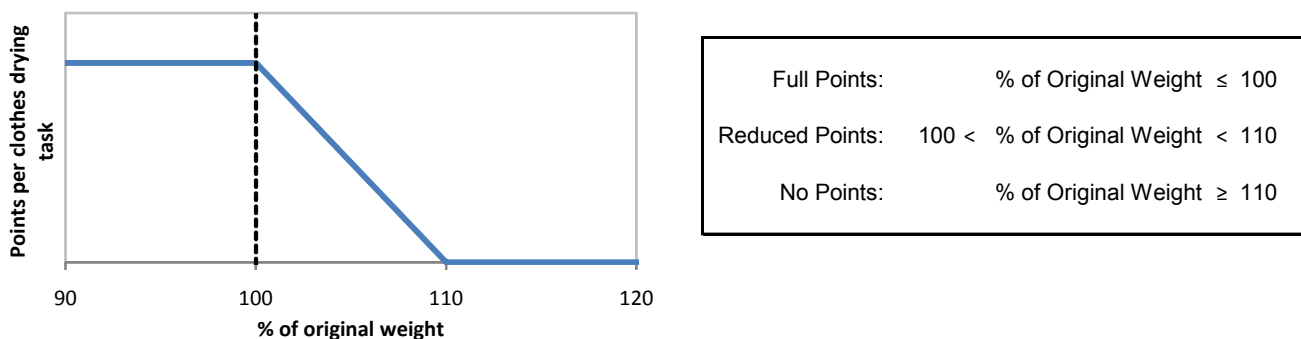

Figure 9: Scoring function for the Clothes Dryer subcontest
- a. Reduced points are earned if the “dry” towel weight is between 100.0% and 110.0% of the original towel weight. Reduced point values are scaled linearly, as shown in Figure 9.